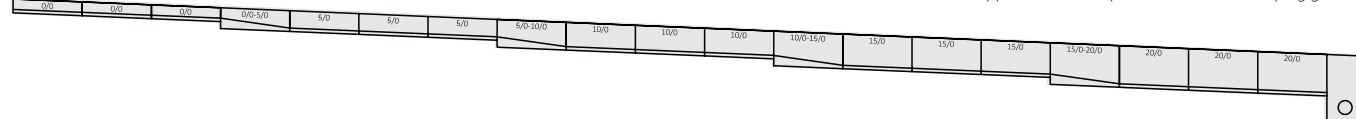

Fig.12
- Channels with inbuilt/transition falls can be used (Fig. 12 opposite).